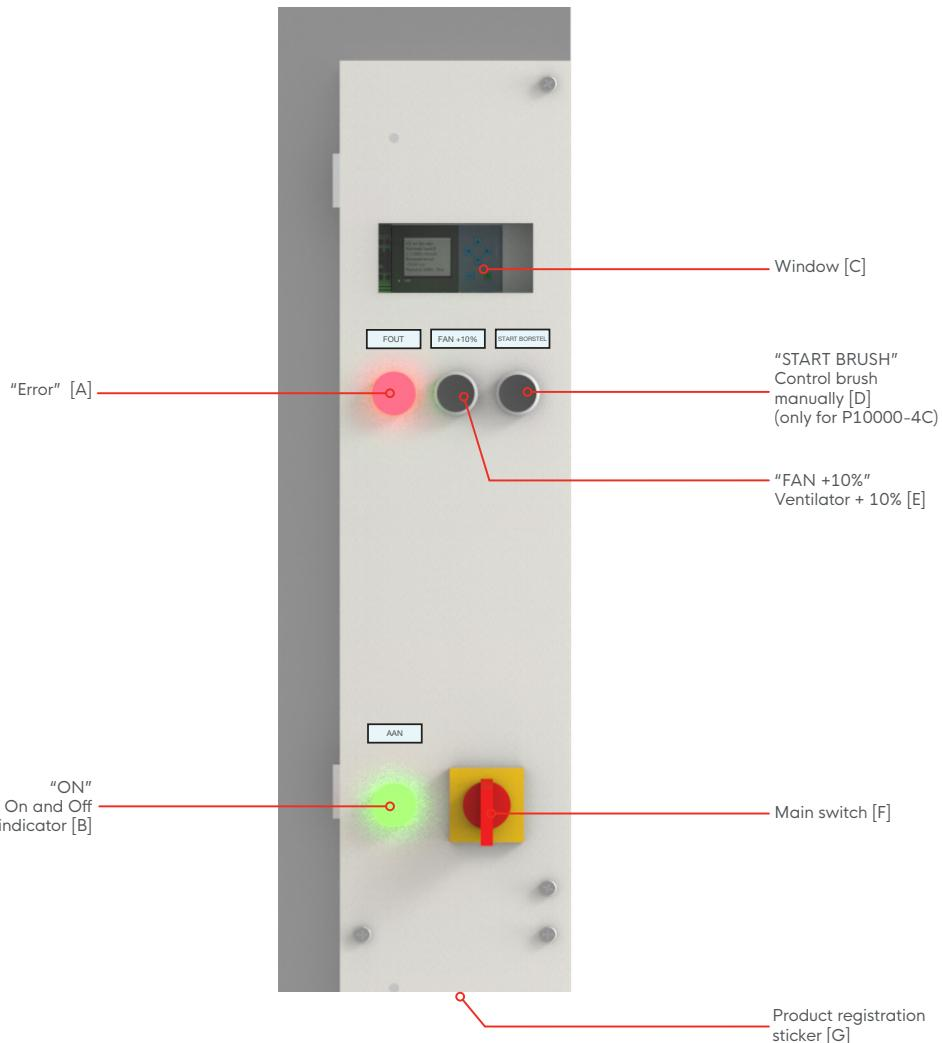
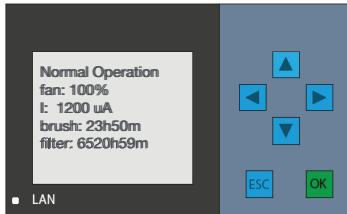

Figure 3.5: Control box parts
Figure 5.1: display at standard use
The unit is switched on and off with the help of the main switch. If the unit is on, the green light will come on. See section [B] in figure 3.5. Tip: It is possible to lock the main switch in the "OFF" position with the aid of a padlock for safety, maintenance or repair. This is necessary if it is not possible to unplug the E-PURE ASPRA P10000 from the socket. It is preferred to remove the plug from the socket.
1. Set the main switch (figure 3.5 [F]) to position "0" to switch off the E-PURE ASPRA P10000.
Set the main switch (figure 3.5 [F]) to position "1" to switch on the E-PURE ASPRA P10000-4C. The green indicator lamp (figure 3.5 [B]) will light up immediately and you will see the display light up. After +5 seconds waiting time you will slowly hear the fan go to its set speed and the high voltage will indent. To switch off the E-PURE ASPRA P10000-4C, reset the main switch to "0". At "0" the entire system switches itself off immediately.
The display (figure 5.1), which is visible through the viewing window (figure 3.5 [C]), shows various data after switching on:
By pressing and holding the pressure button for manual self-cleaning (figure 3.5 [D]) for two seconds, you can start a cleaning cycle yourself. When starting a self-cleaning cycle, the fan will stop running. This is to prevent the flaring of dust during cleaning. The system waits for 30 seconds until the fan is turned off.
The position of the fan can be adjusted manually. To do this, briefly press the "FAN + 10% button" (figure 3.5 [E]). Every time the button is pressed the fan will start to spin 10% faster. If you press the button after 100% has been reached, the fan will return to 20%. It is not possible to switch off the fan when the E-PURE ASPRA P10000-4C is on.